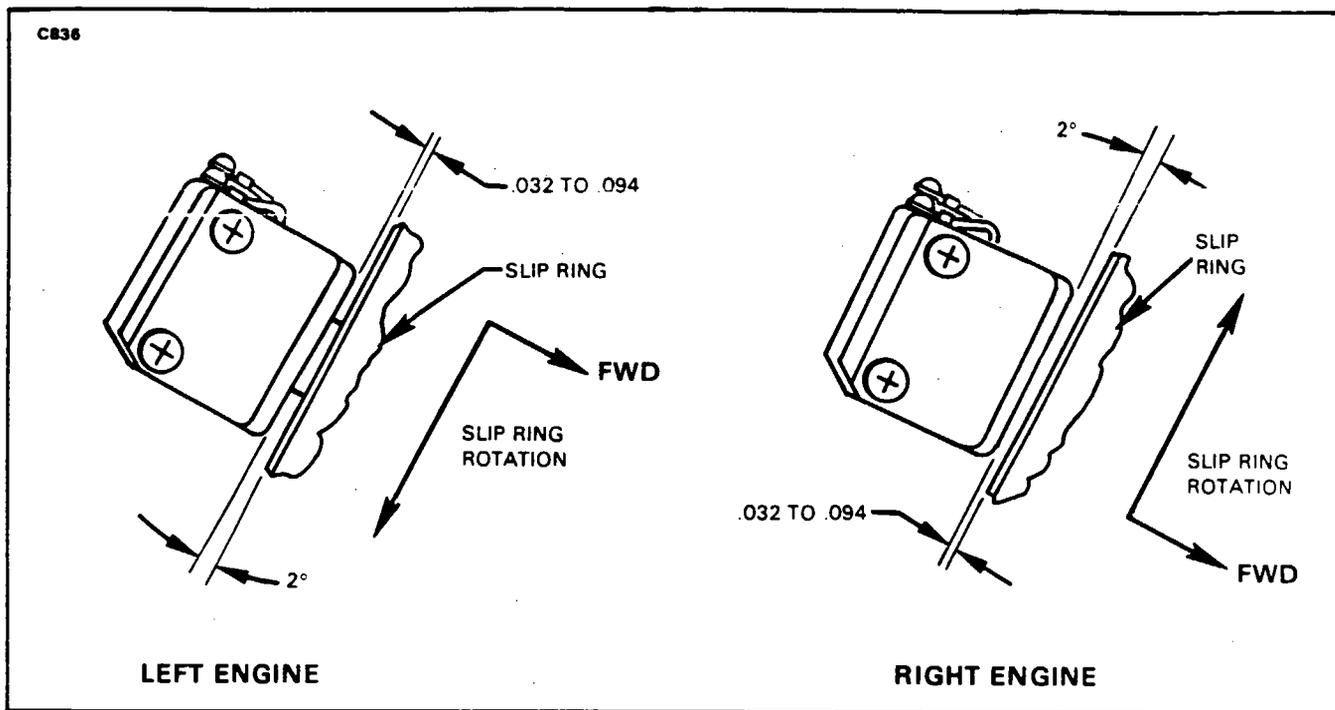

Figure 30-19. Angle of Contact Brushes to Slip Rings
- B. Check for proper clearance of modular brush assembly to slip rings as shown in Figure 30-19. If not correct, loosen mounting screws and move in elongated holes to correct block position before maintaining securely.
- D. Visually check brush block for approximately 2° angle of attack. (Refer to Figure 30-19.) If not, loosen mounting screws and twist block, but be sure to hold clearance limits shown when tightening.
**ALIGNMENT OF NEW BRUSHES. (Refer to Figure 30-19.)**